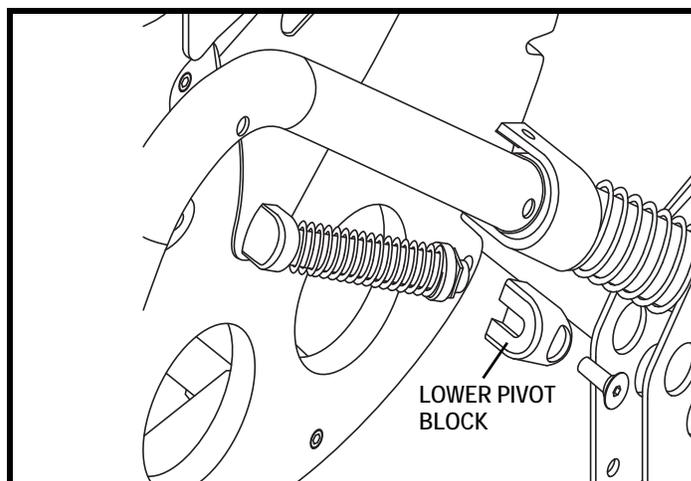

Figure 39. Changing Extension Limit and Force (Kids ROCK 2 and ROCK 3)
4. Using a 5/32-in. hex wrench and a 7/16-in. nut driver, remove the bolt from the lower pivot block below the spring and then pull the block away from the black plate. **See figure 39.**